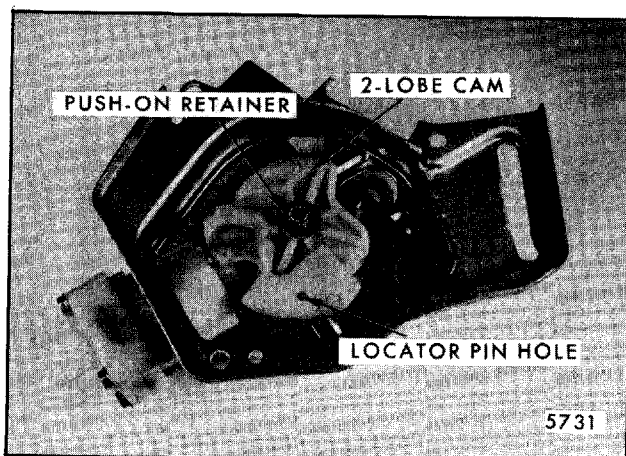

Fig. 2-159-Drive Cam
Remove push-on retainer and slide cam off shaft (Fig. 2-159). New retainers are provided in cam service packages.
- c. To reassemble, position pulse relay on switch base locator pins, rotate drive cam counterclockwise to position shown in Figure 2-159, then secure the complete assembly to washer pump frame with the attaching screw.
- a. Follow steps a through e under item 4.
- a. Follow disassembly steps under items 2, 3 and steps c and d under item 4.
- b. Bend or chisel off the four bent over tabs that secure the coil mounting bracket to the base (Fig. 2-159).